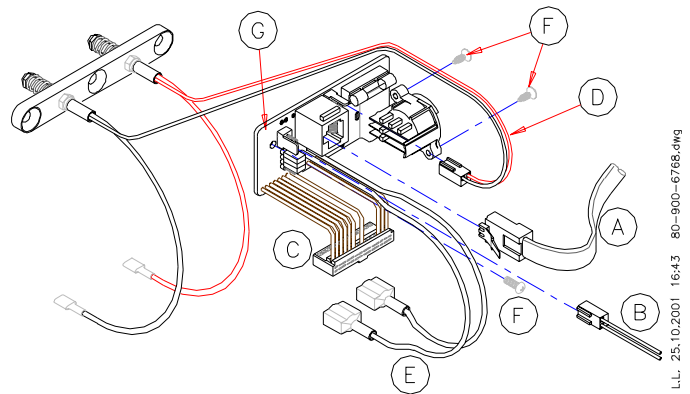

Figure 12
5. Connect Control Cable (Fig. 12-A), Freewheel Cable (12-B), wiring to Controller (12-C), Contact Pins Assembly (12-D) and Power Cable (12-E)